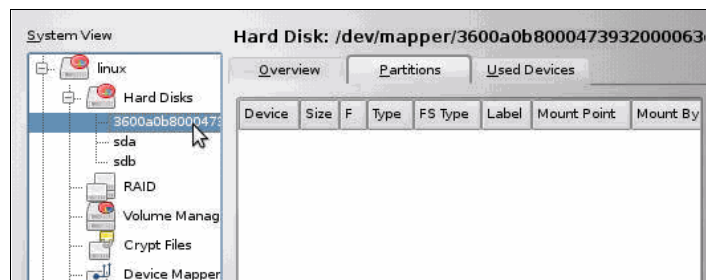

Figure 2-99 Selection of the new Mapper drive
- You will see the drive that was created as shown in Figure 2-99. Now we need to add a new partition to this new drive before we continue with the OS installation.